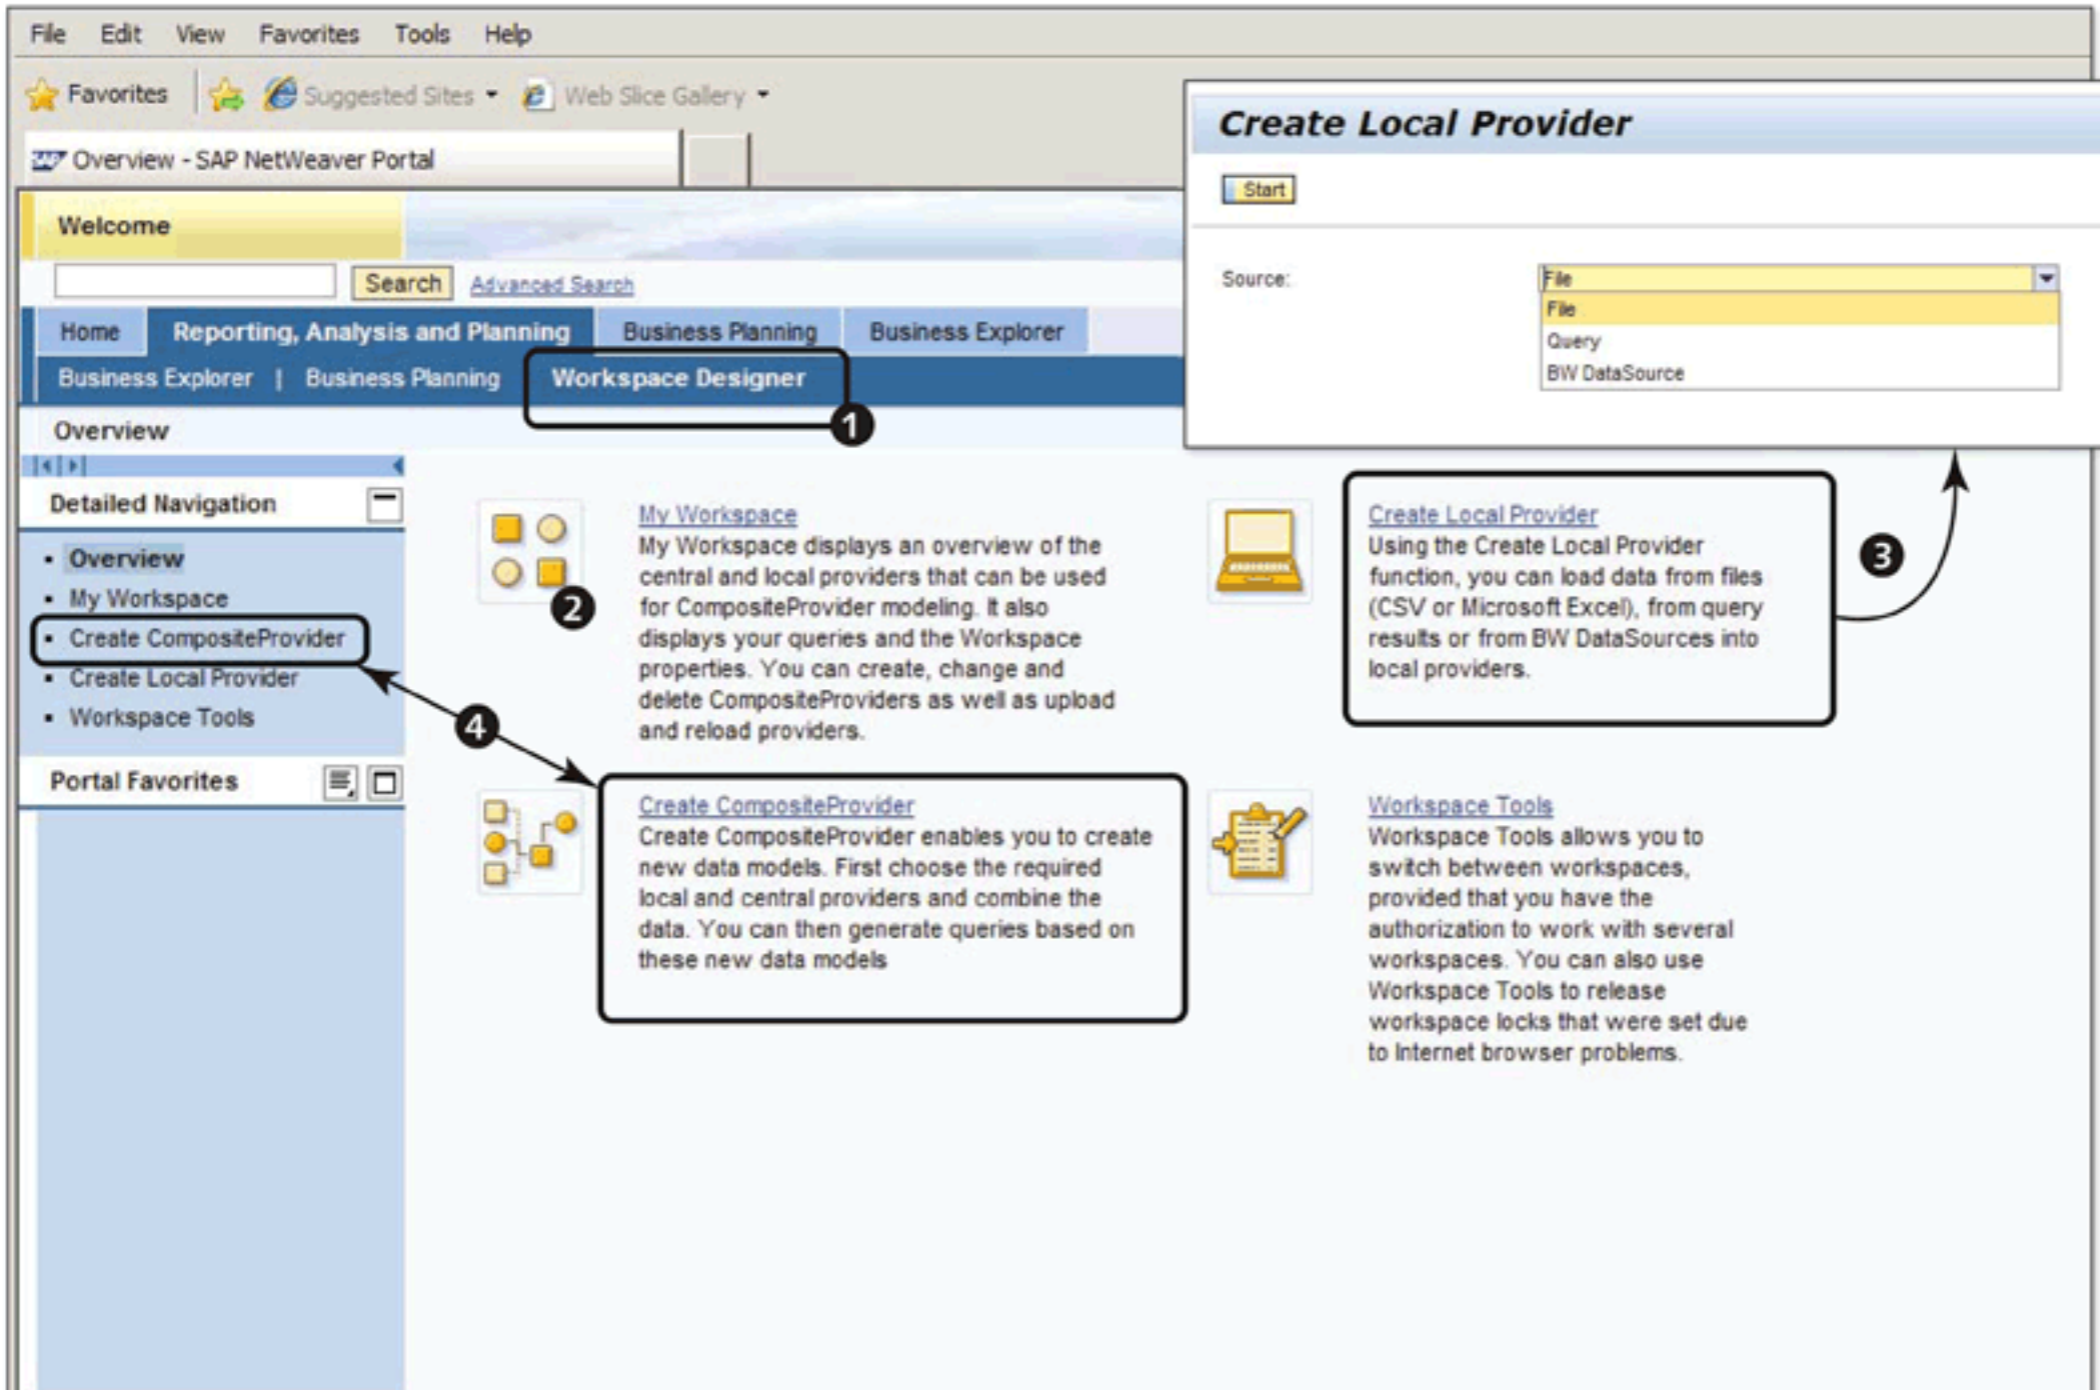
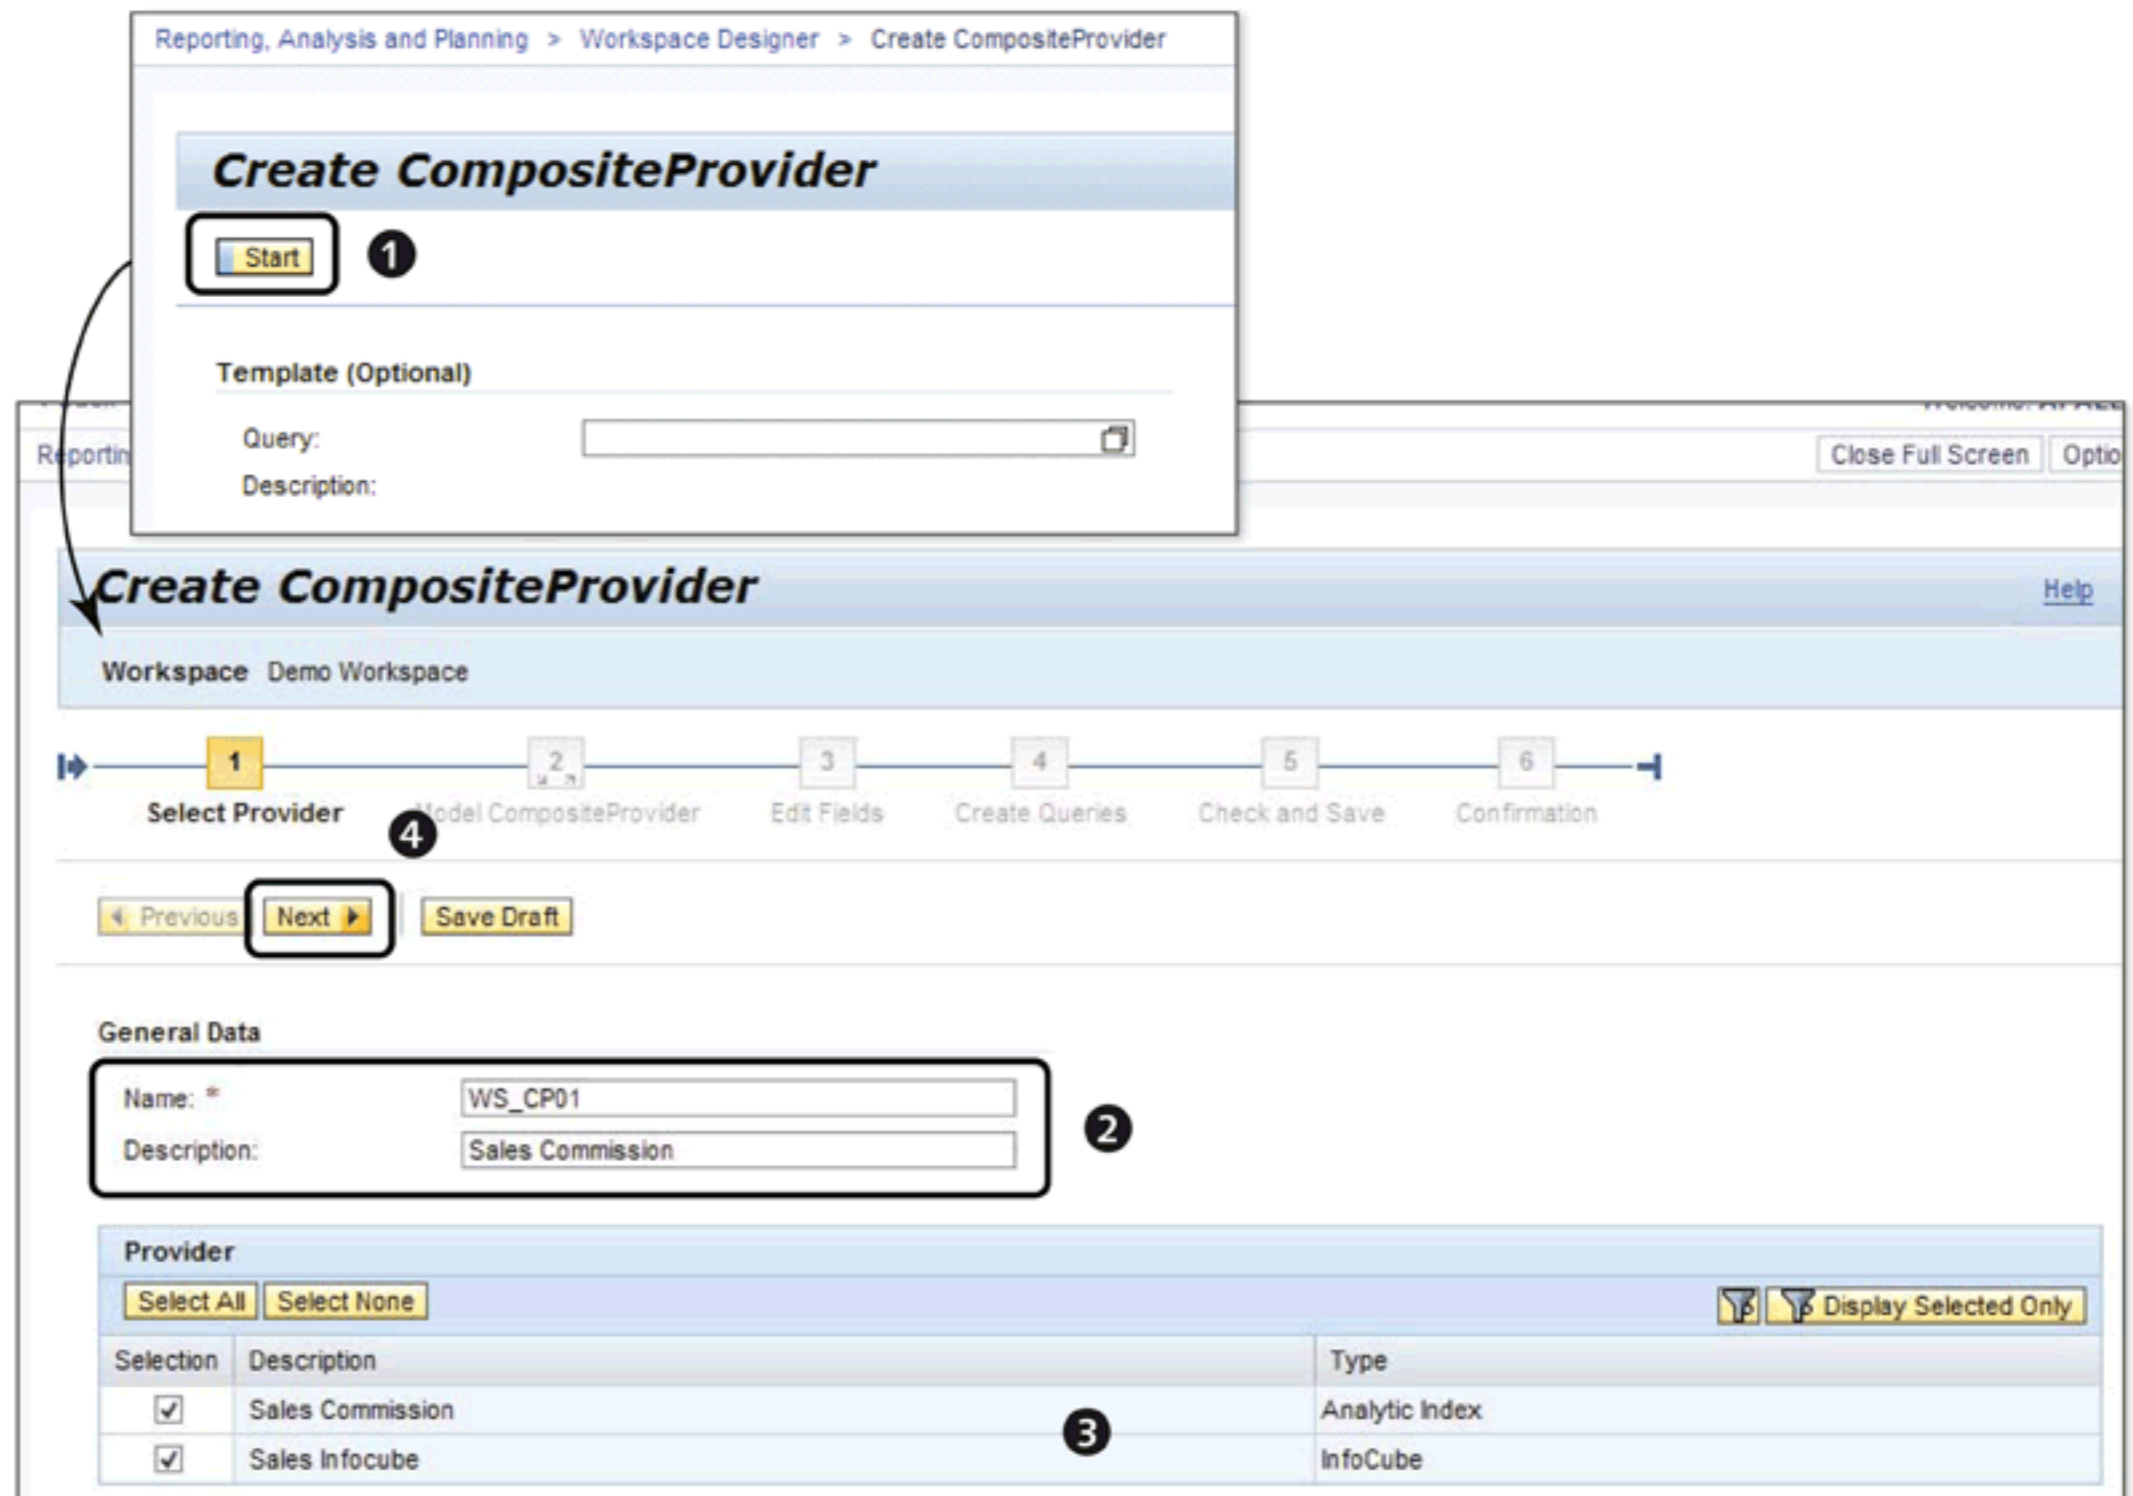

Figure 10.75 Workspace Designer on the Portal
Figure 10.76 Create Composite Provider
Business users can work within the BW Workspace from the portal (SAP NetWeaver Portal 7.0 or higher); the WORKSPACE DESIGNER is available as part of the standard REPORTING, ANALYSIS, AND PLANNING tab (❶ of Figure 10.75).
Within the WORKSPACE DESIGNER, click on the MY WORKSPACE link (❷ of Figure 10.75) to get an overview of all of the available central providers and local providers. You can also maintain the composite providers via this link.
The link CREATE LOCAL PROVIDER (❸ of Figure 10.75) allows users to define an InfoProvider to load data locally either from flat files (CSV or Excel) or from a query or an SAP NetWeaver BW DataSource.
To create a composite provider using available central providers and local providers, click on the **CREATE COMPOSITE PROVIDER** link, as shown in **4** of Figure 10.75. The next screen will allow you to use one of the existing queries as a template for the composite provider. If you don't want to use a query as a template, click on the **START** button (**1** of Figure 10.76) to proceed.
Maintain the **NAME** and **DESCRIPTION** of the composite provider on the next screen (**2** of Figure 10.76). Select the providers you would like to use to create the data model (**3** of Figure 10.76). Here you see a list of the central and local providers
that you have created. For the given example, we select SALES COMMISSION and SALES INFOCUBE as the basis for defining the composite provider. Click on NEXT (4 of Figure 10.76).